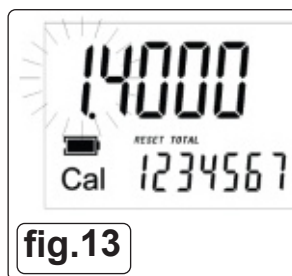

fig.13
- 5.7.3. Press and hold MOVE key until all digits illuminate and display shows 'Cal' (fig.13).